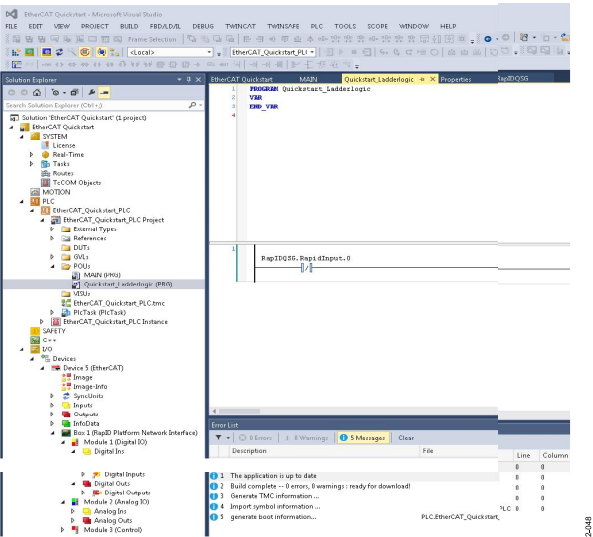

Figure 52. Build Complete and Rapid Input and Output Footprint
10. After building the solution, within the **Solution Explorer** pane, navigate to **Solution 'EtherCAT Quickstart' (1 project) < EtherCAT Quickstart < I/O < Devices < Device 5 (EtherCAT) < Box 1 (RapID Platform Network Interface)** to expand **Module 1 (Digital IO)** and expand both **Digital Ins** and **Digital Outs** (see Figure 52).